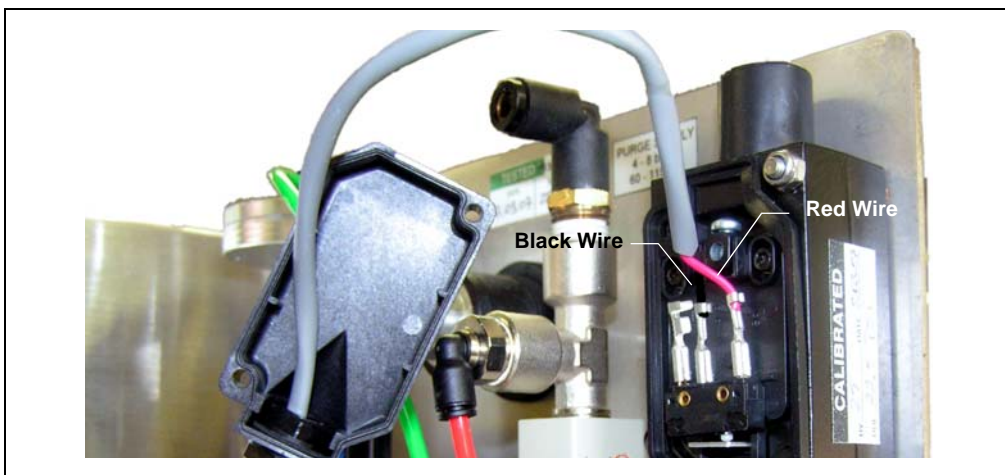

Figure D-6. Purge Control Cable Connections
9. On the purge control unit, plug the red and black wires on the purge control cable into the connectors on the black box. Plug the black wire into the middle connector and the red wire into the outside connector (see Figure D-6).